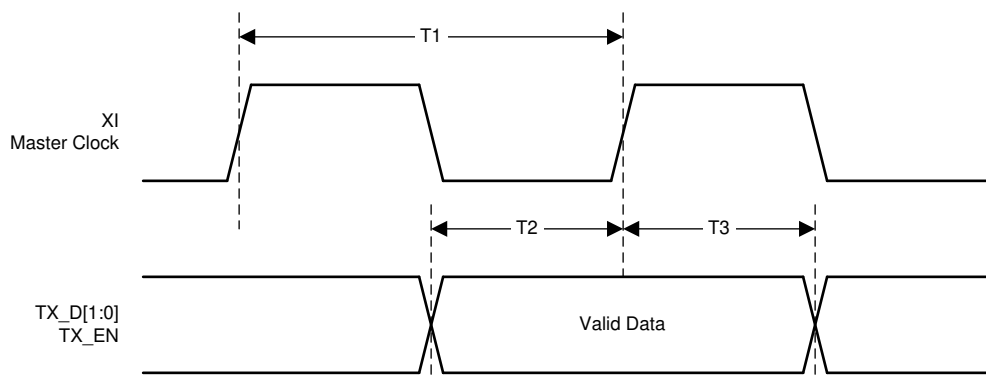

图 7-9. RMII Transmit Timing
(1) Ensured by production test, characterization or design.
(2) See 图 7-9.